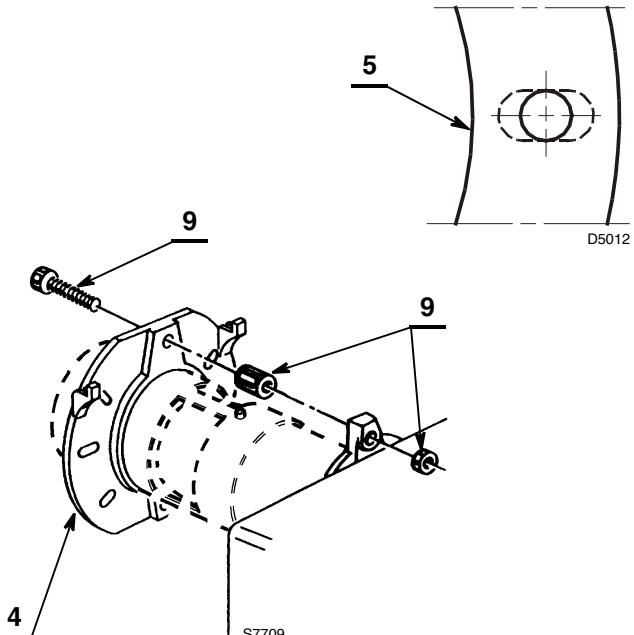

Fig. 7
- Put on the flange **4** (Fig. 7) the screw and two nuts **9**.
- Widen, if necessary, the insulating gasket holes **5** (Fig. 7).